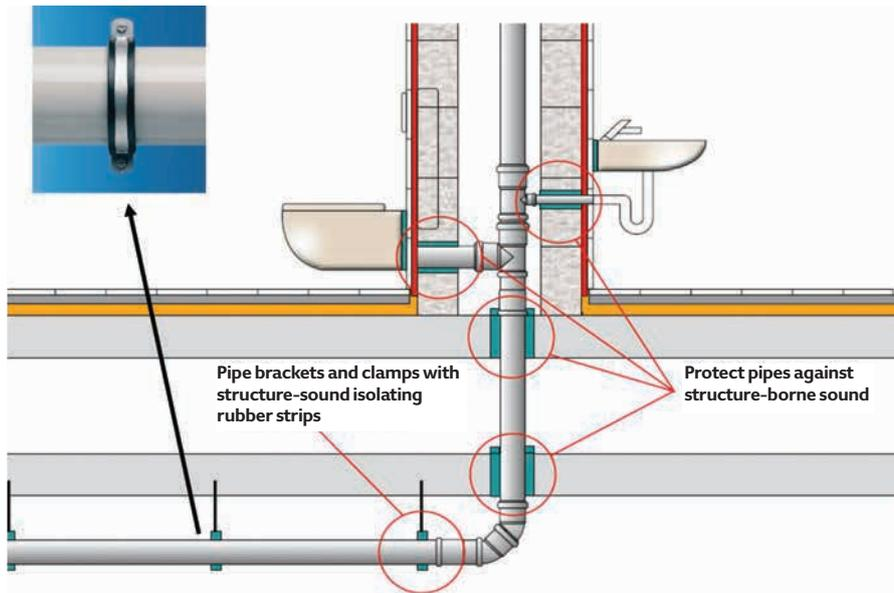

Figure 3: Soil and waste pipe arranged to reduce structure-borne sound (Source: Wavin)
to address, so to reduce potential problems, bends should be minimised and any direct contact between the soil pipe and the structure must be avoided. To meet the design requirements, many manufacturers offer support systems that reduce the transmission of sound, such as that shown in Figure 3.
applies. A 230mm brick wall (400 kg·m⁻²), for example, will provide attenuation of about 50 dB, a 115mm brick wall 45 dB, and a partition weighing 50 kg·m⁻² about 35 dB. ‘Indirect’ or ‘flanking’ pathways create a means by which sound can bypass a dividing wall or floor through poor detailing, particularly where surfaces meet. The openings around pipes must be treated effectively to reduce noise transmission, as shown in Figure 3. Determining the actual level in the receiving room is complex, and will depend on factors² including: sound insulation and area of the separating wall or floor; the volume of the receiving room; the flanking transmission; and the amount of absorbing material (for example, furniture) in the receiving room.
5. In the soil pipe system illustrated in Figures 3 and 4, which of the following is not specifically applied to make it particularly effective at reducing noise?